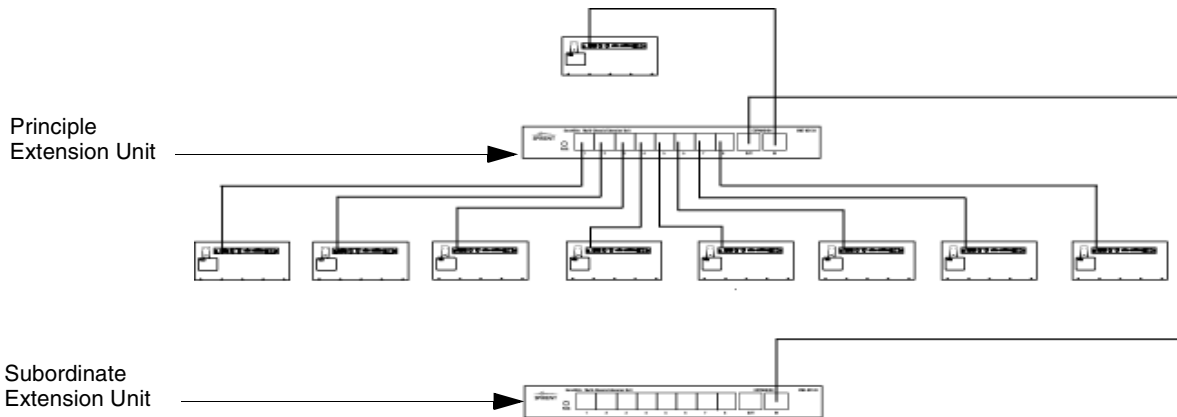

Figure A-11. Connecting an Extension Unit to Another Extension Unit
- You can connect another extension unit to the *Principle Extension Unit* by connecting a cable from the OUT expansion port of the *Principle Extension Unit* to the IN port of the *Subordinate Extension Unit* as shown in *Figure A-11* below. You may continue adding extension units and chassis until you reach 512 chassis.